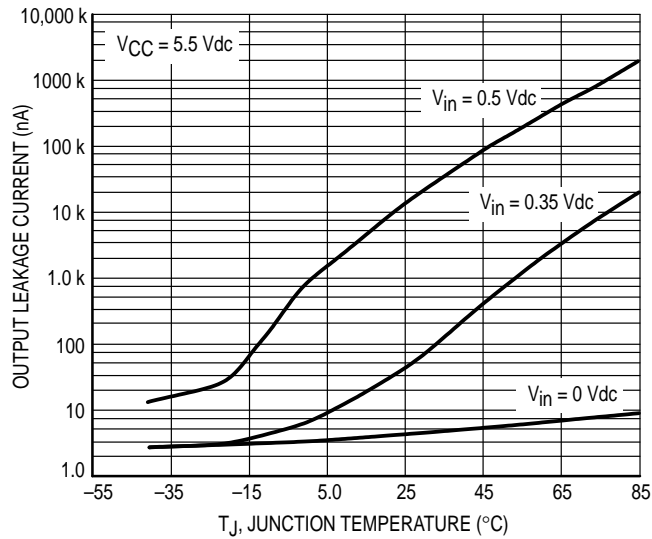

Figure 8. Output Leakage Current versus Temperature
8. Using Figures 8 & 9, insure that "OFF" state leakage over temperature and voltage extremes does not violate any system requirements.